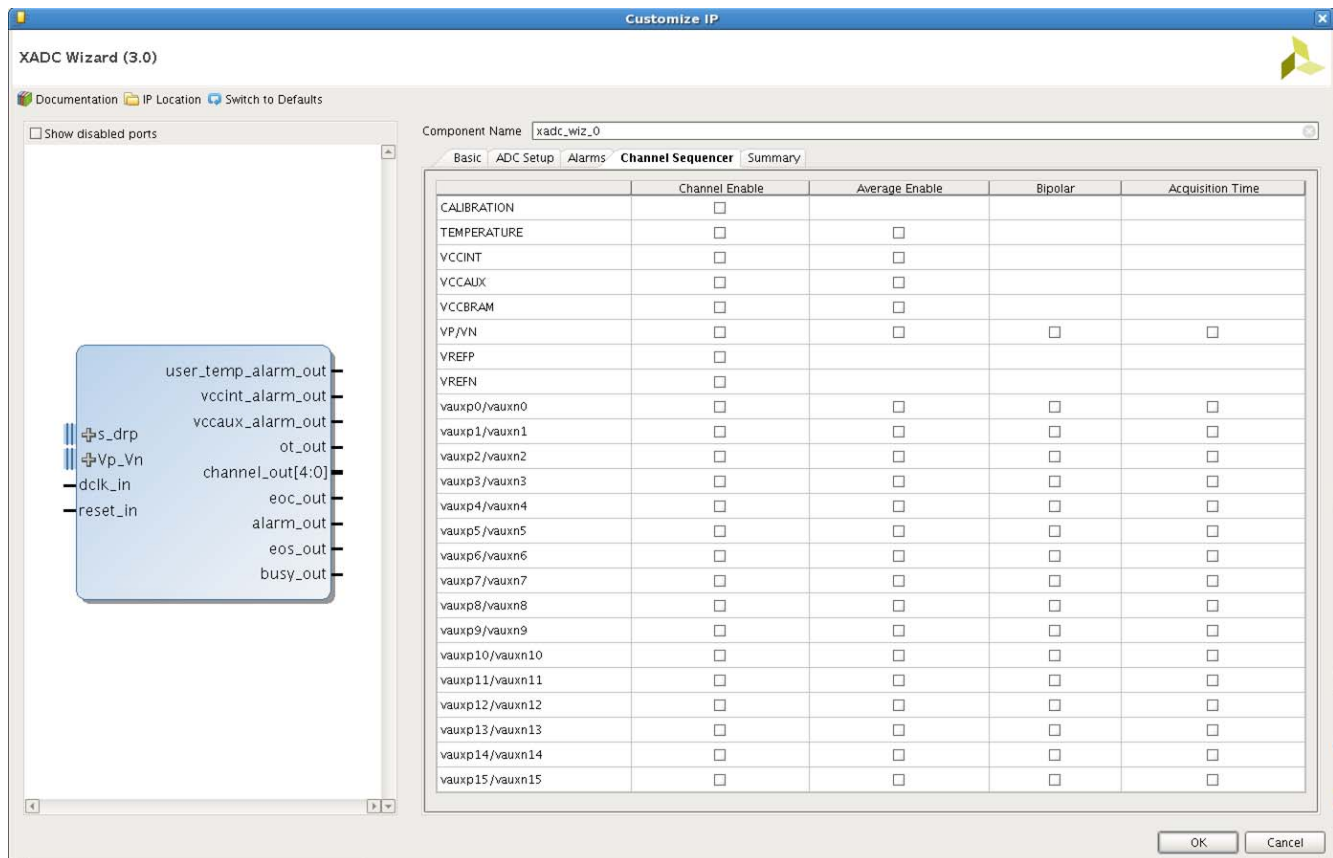

Figure 4-9: Channel Sequencer Tab
- **Channel Sequencer** – Choosing this mode, allows you to select any number of channels to monitor. The channels to be used for this mode can be selected on Figure 4-9, page 47.
Channel Sequencer (Figure 4-9) is used to configure the XADC sequence registers when the XADC is configured in Channel Sequencer, Simultaneous sampling, or Independent ADC mode. All the possible channels that can be included in the sequence are listed in the Channel Sequencer table of the Wizard shown in Figure 4-9.